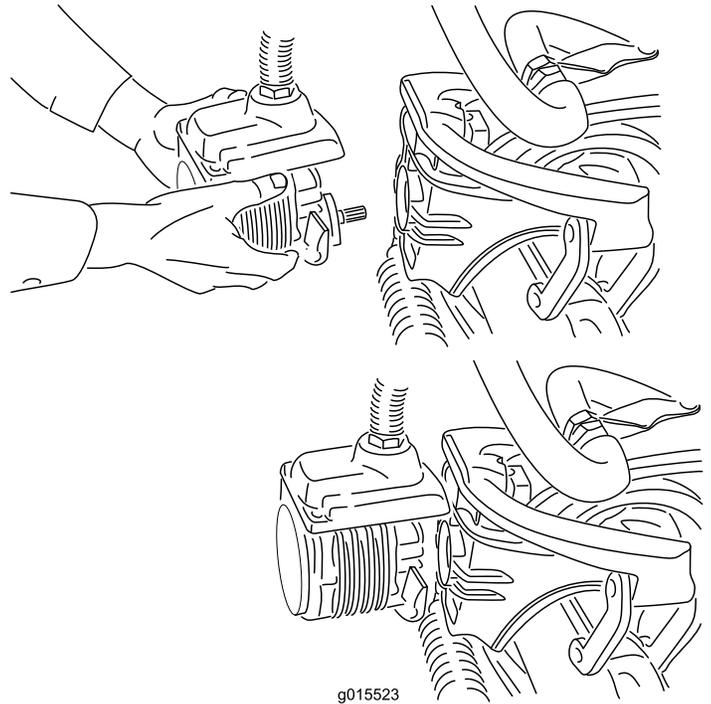

Figure 40
4. Move the motor to the storage location on the front of the suspension arm (Figure 40).